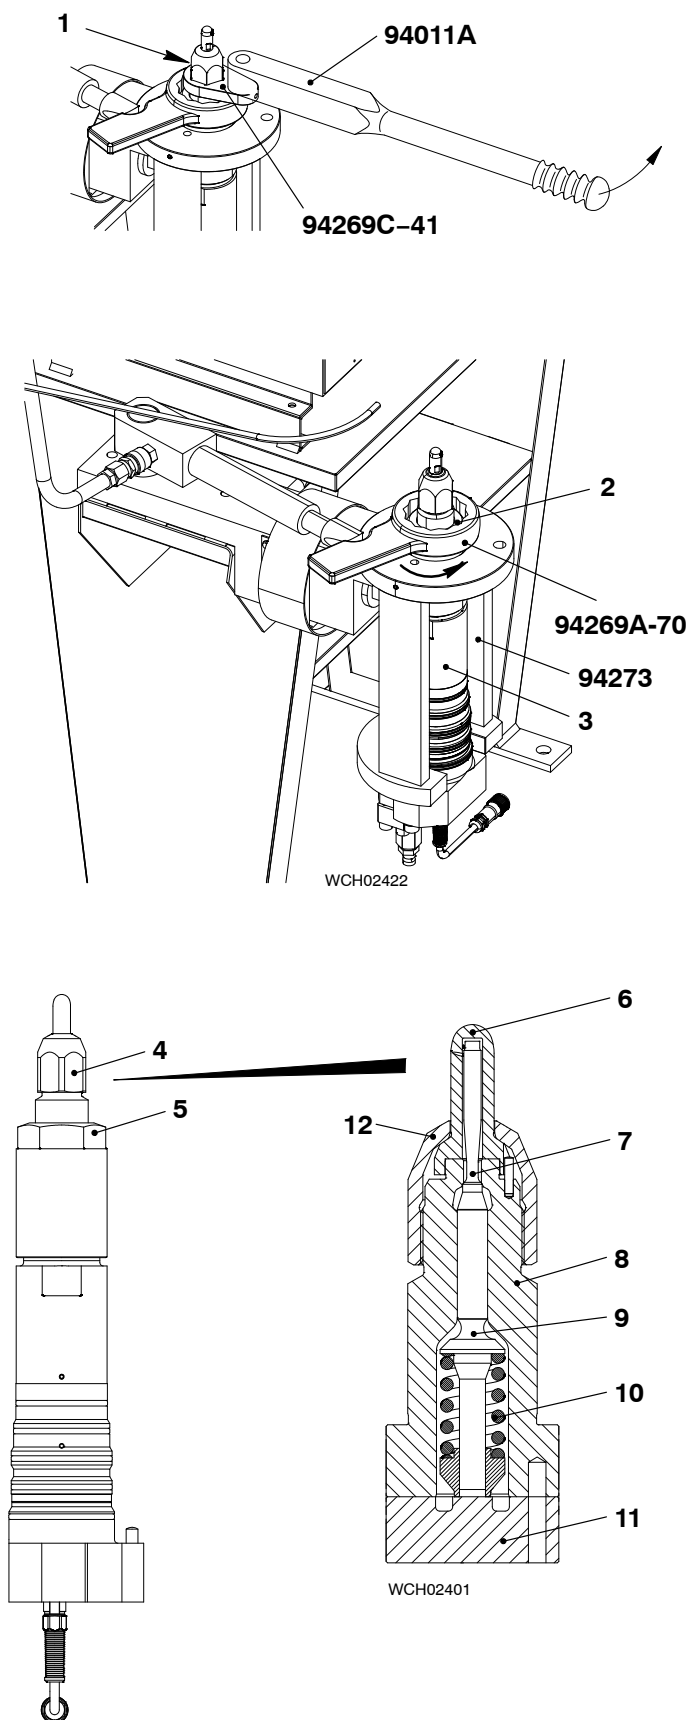

Fig. 2
- 5) Turn the valve holder through 180° into the vertical position (see Fig. 2).
- 6) Use the torque spanner (94011A) and adapter (94269C-41) to carefully loosen the locknut (1).
- 7) Remove the locknut (1).
- 8) Use the wrench (94269A-70) and the hydraulic cylinder (94269B) to loosen the coupling nut (2).
- 9) Remove the coupling nut (2).
- 10) Remove the nozzle body (8) together with the:
- Intermediate plate (11)
- Compression spring (10).
- Tappet (9)
- Needle (7)
- Nozzle tip (6).